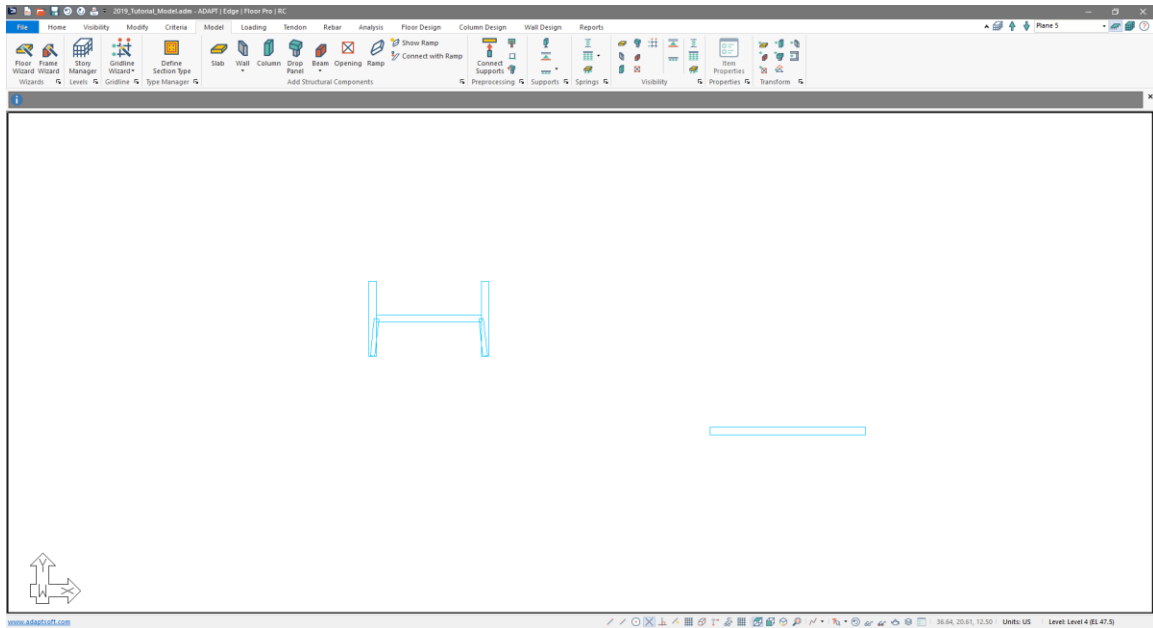

Figure 4-15
- Go to *Model* → *Transform* and click on the *Transform Compound Wall*  icon. This will automatically create multiple wall objects based on the selected closed polyline as shown in **FIGURE 4-15**.